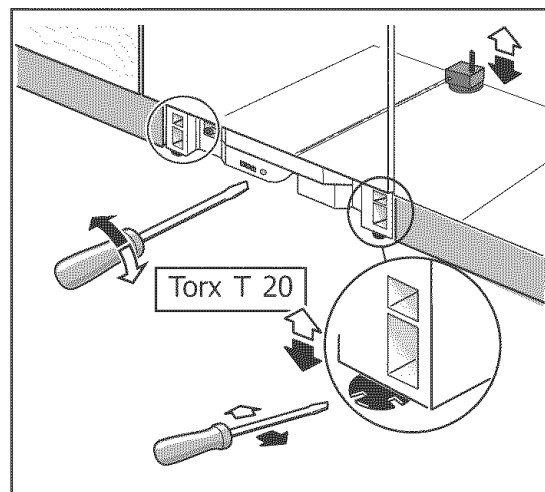

Figure 23
- Use a screwdriver and tap the end lightly with a hammer to turn the legs (see Figure 23).